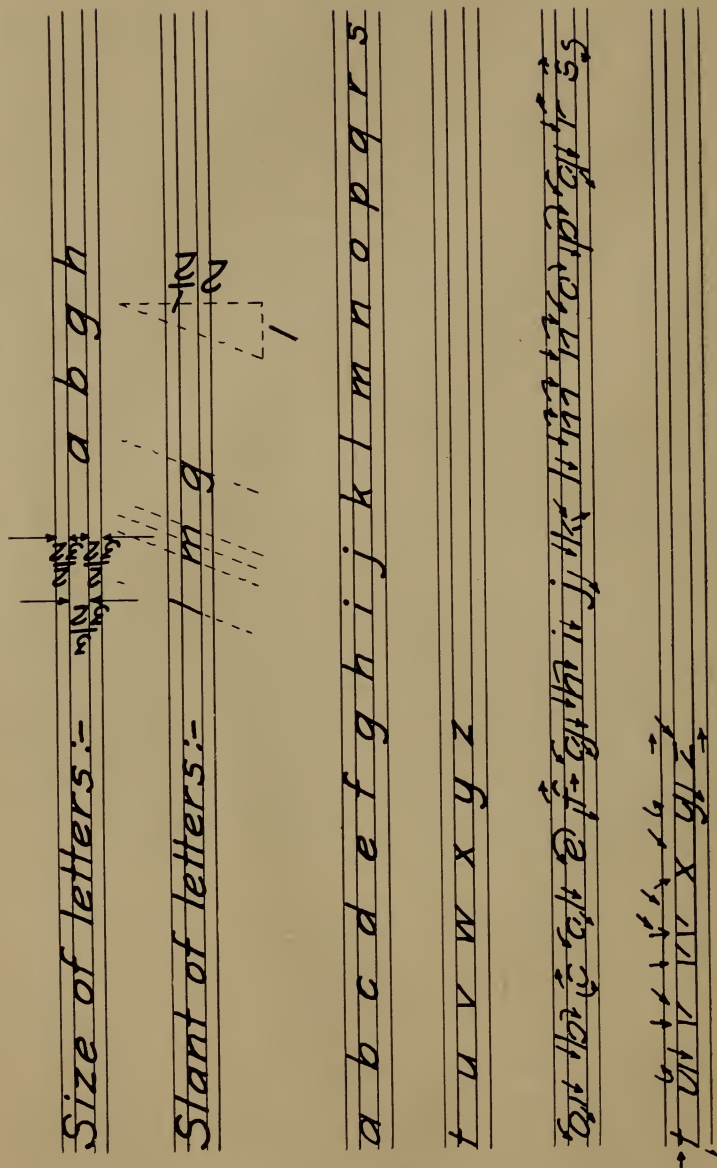

Fig. 17. Lettering.
1. **STYLE.** The style of lettering which seems to best meet practical conditions is that developed by Mr. C. W. Reinhardt and given in Figs. 17 and 18. Slanting lettering is mostly used, although the same style can be executed vertical, which is done for all titles of large letters. Letters consist of capital letters (called upper case) and small letters (called lower case).
2. **SIZE.** In general, the lower case or small letters are three-fifths the height of capital letters. The usual height is  $5/32$  inch for capitals, making the lower case letters  $3/32$  inch, as shown in Fig. 17. Always draw parallel lines as a guide for top and bottom of letters as shown. This is necessary for beginners, and is done by experienced draftsmen.